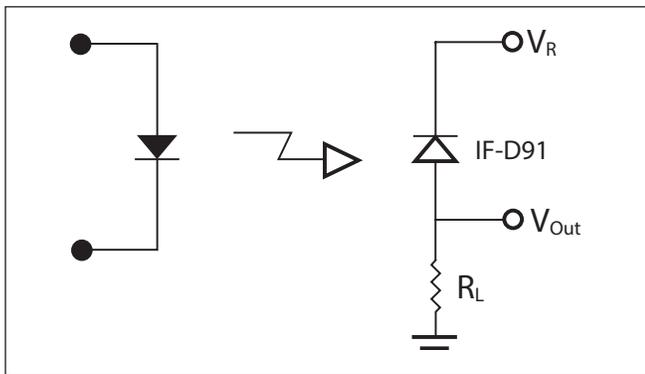

FIGURE 2. Circuit diagram for measuring rise and fall times.
3. We could change the circuit from the basic resistor (Figure 2) to the transimpedance amplifier (Figure 5).
The circuit shown in Figure 2 can be used for low frequency applications. The output is given by $V_{OUT} = P_{IN} \times R \times R_L$. Where P_{IN} is the power into the IF-D91 and R is the responsivity at the wavelength used. The bandwidth is limited by the IF-D91 capacitance, the circuit capacitance and R_L ,